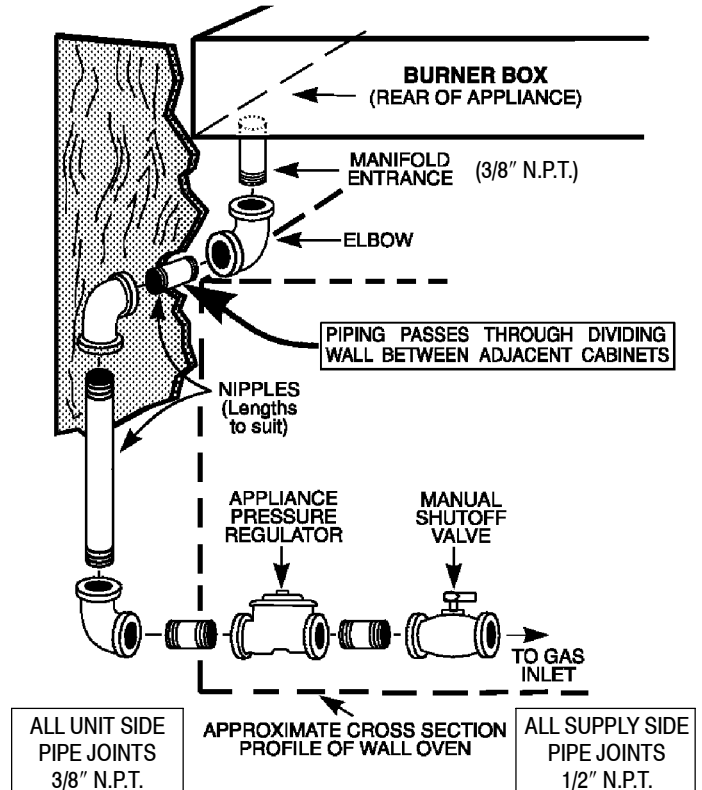

FIGURE 4
### Note, regarding Figure 4, above:
- For convenience in service a union (not shown: locally available) should be included in the piping illustrated in figure 4, in a location most practical for the installation. Generally, a practical location is in the cabinet below this appliance, near the manifold entrance, rather than in an adjoining cabinet.
If the outlet is to be mounted in either a left or right adjacent cabinet, a clearance hole, as described above, must be provided in the dividing wall between the cabinets. Figure 4; page 5, illustrates a typical (left side) dividing wall. The clearance hole (not shown in figure 4)